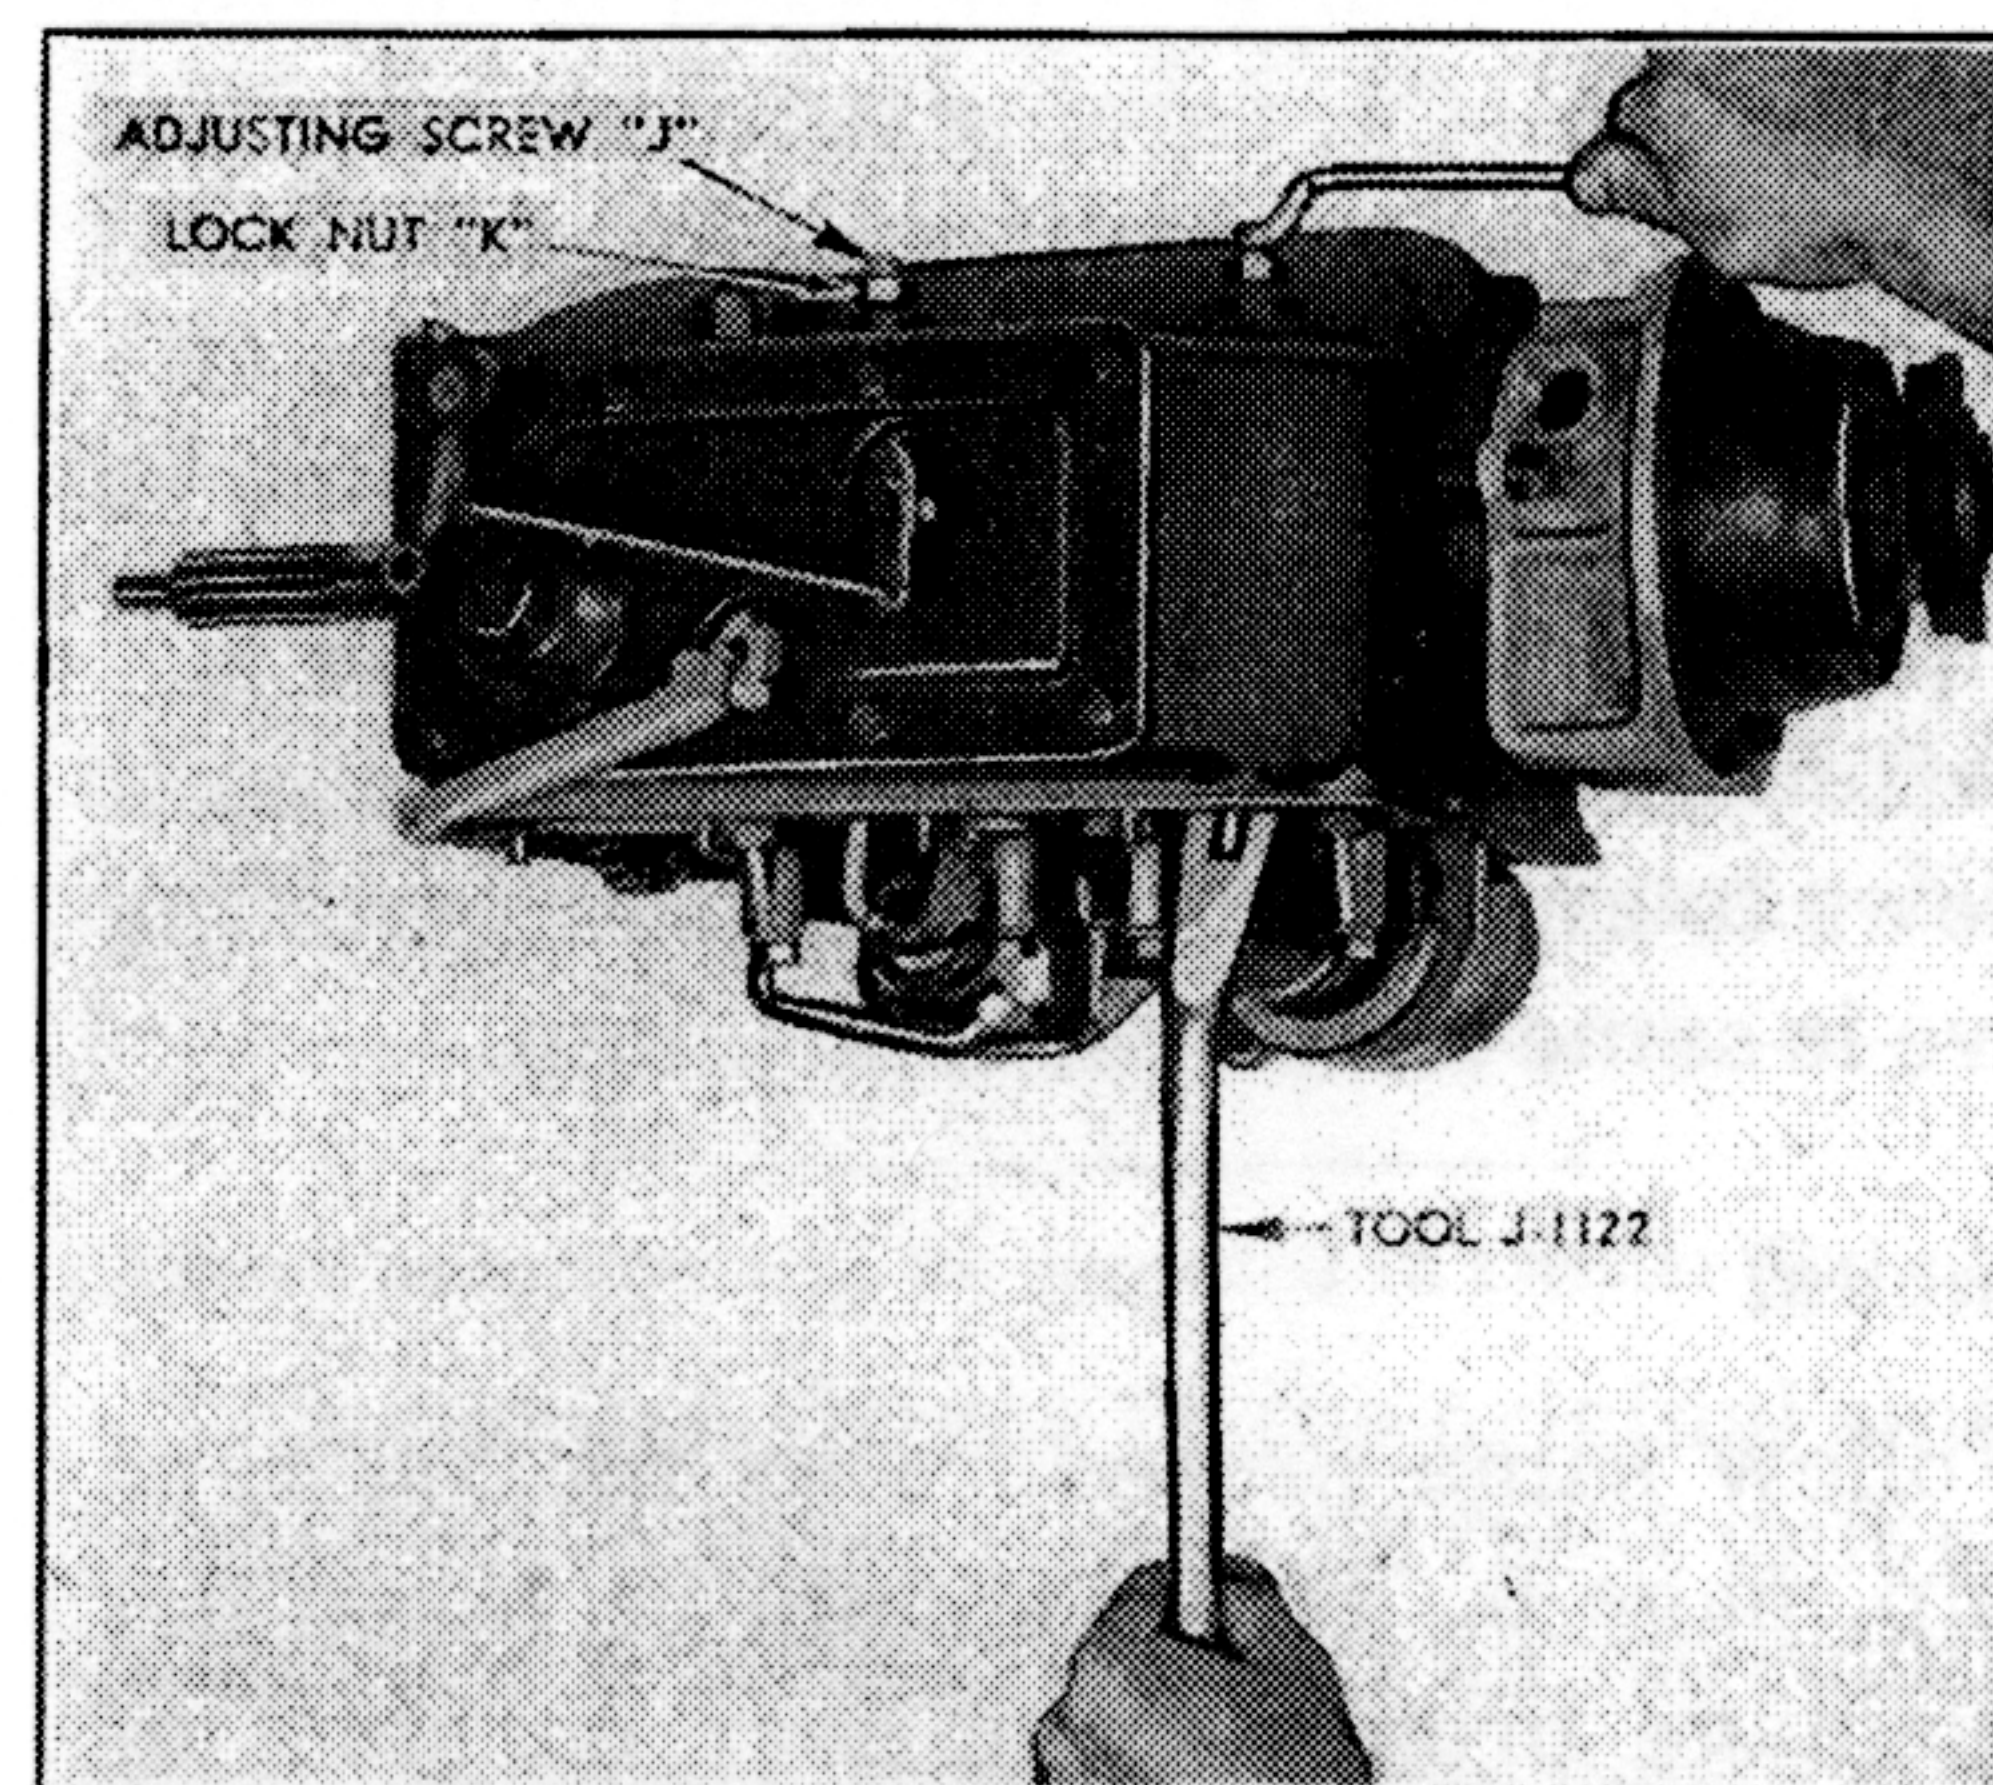

Fig. 9. Servo Band Setting
5. Loosen lock nuts and back off on adjusting screws until both bands are loose. (See Fig. 9.)